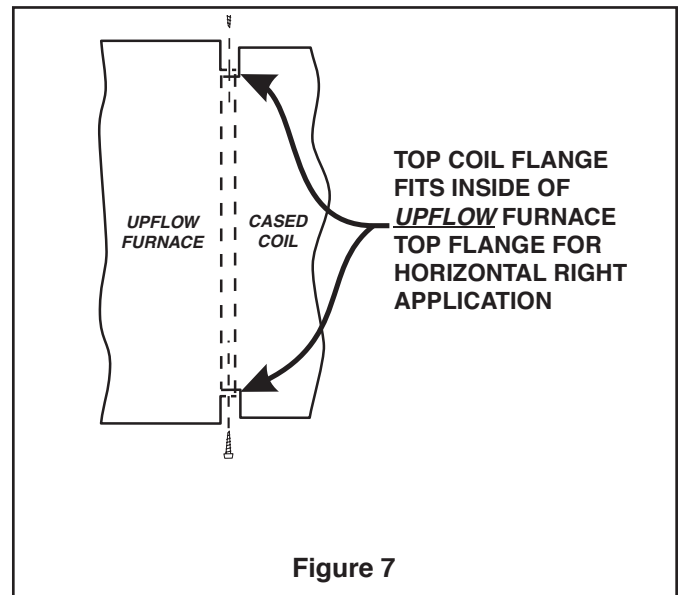

Figure 7
2. When the noncondensing Upflow/Horizontal furnace is placed on its right side for right airflow, the furnace top flange meets the cased coil top flange. The coil flange fits inside of the furnace flange. See Figure 7.